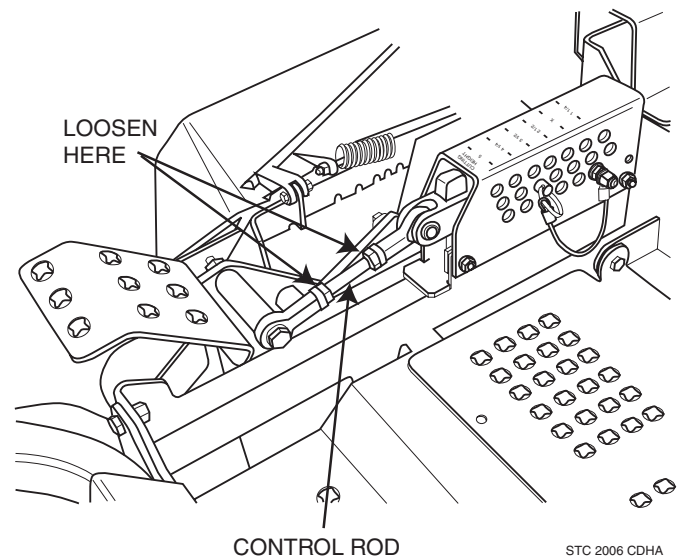
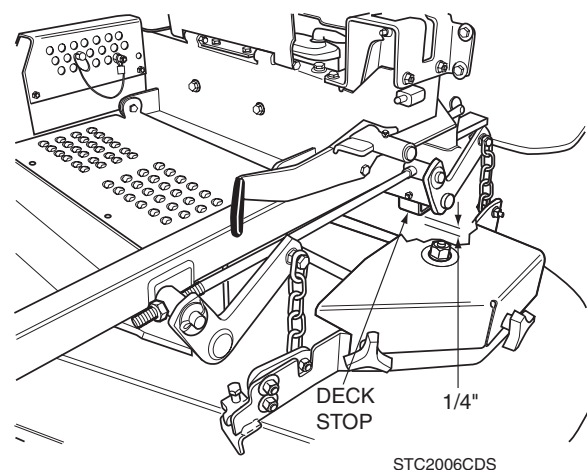

Figure 6-6. Cutter Deck Height Adjustment
Figure 6-7. Cutter Deck Stop
1. Place the cutter deck in the transport position. Loosen the jam nuts on both ends of the deck height control rod. See Figure 6-6.
2. Turn the control rod (See Figure 6-6) until there is a 1/4" space between the rear deck stop and the top of the cutter deck. See Figure 6-7. Tighten the jam nuts on the control rod.
- Check the measurement from the floor to the cutter blade tip. If the measurement is not at 3", an adjustment can be made using the deck height control rod. See Figure 6-6.